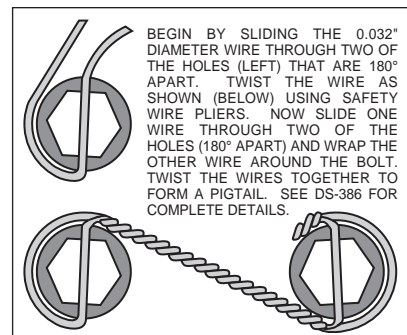

Figure 3. Safety Wire Diagram
- Apply red *Loctite*® 271 to bolt threads (3) before assembly of the caliper mounting bracket (1). Mount bracket (1) to dust face plate of spindle using lock washers (2) and bolts (3). Torque bolts (3) to 22 ft-lb. **NOTE:** Be sure the heads of the caliper bracket (1) insert nuts are facing outward toward the wheel.
- Install wheel studs (4) into the hub (5). Torque to 77 ft-lb. **NOTE:** There are two five lug patterns in the hub (5 x 4.50 and 5 x 4.75). Make sure of the correct hole pattern for the correct wheel application before installing studs into hub.
- Pack the large inner bearing cone (6) with high temperature disc brake bearing grease (available from your local auto parts store) and install into the backside of the hub (5).
- Install the grease seal (7) by pressing into the backside of the hub (5).
•Attach rotor adapter plate (8) to rotor (9) using bolts (10). Torque bolts (10) to 180 **in-lb**. Safety wire bolts (10) using standard 0.032 inch diameter stainless steel safety wire as shown in Figure 3. Please refer to Wilwood's data sheet DS-386 (available at www.wilwood.com/pdf/ds386.pdf) for complete safety wire installation instructions. **NOTE:** Dished side of adapter plate (8) should face hub (5). The mounting tabs on the rotor (9) should face toward the hub as well and line up with the holes on the adapter plate (8).
•Mount the adapter/rotor assembly (8 and 9) to the hub (5) using bolts (11). Torque bolts (11) to 22 ft-lb. Safety wire bolts (11).
•Pack the small outer bearing cone (12) with high temperature disc brake bearing grease and install into front of hub (5). Slide the hub/rotor assembly (5 and 9) with outer bearing cone (12) onto the spindle. Secure using stock washer, adjusting nut and nut locking device. Adjust bearings per Original Equipment Manufacturer (OEM) specifications.
•Install the dust cap (13) onto the hub (5). Friction created by the o-ring (14) on the dust cap (14) keeps it from unscrewing. The O.D. of the existing spindle washer may be larger than the I.D. of the dust cap (13) not allowing it to seat against the hub face. Some grinding on the washer O.D. may be necessary to clear the I.D. of the dust cap (13).
•**NOTE:** Please reference the caution statement at the beginning of the assembly instructions. With the bleed screws pointing up, mount the caliper (15) onto the caliper bracket (1) using lock washers (16), bolts (17) and caliper spacer (18). Finger tighten. View the rotor (9) through the top opening of the caliper (15). The rotor (9) should be aligned in the center of the caliper (15). If not, adjust the caliper (15) by using 0.032 inch thick shims (20) placed between the caliper mounting bracket (1) and the caliper spacer (18). Finger tighten and recheck alignment. Apply red *Loctite*® 271 to bolt threads (17) and torque to 30 ft-lb. Safety wire caliper bolts (17).
•Install the disc brake pads (20) and secure using cotter pin (21).